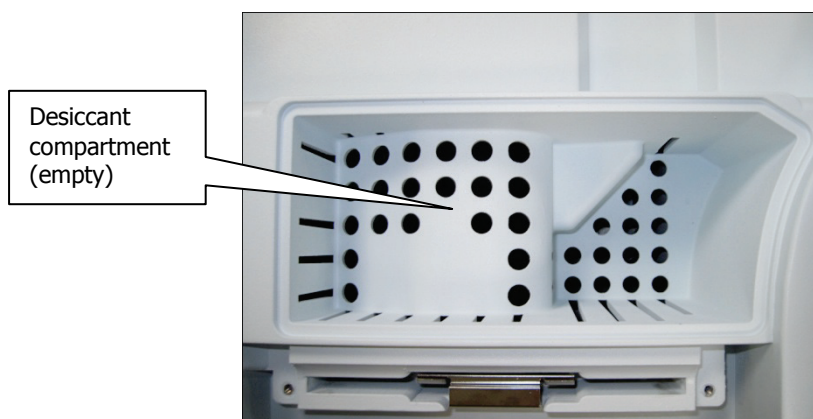

Figure 27 Desiccant removed
4. Open the cover and remove all the exhausted desiccant packs (Figure 27), noting how they are installed.